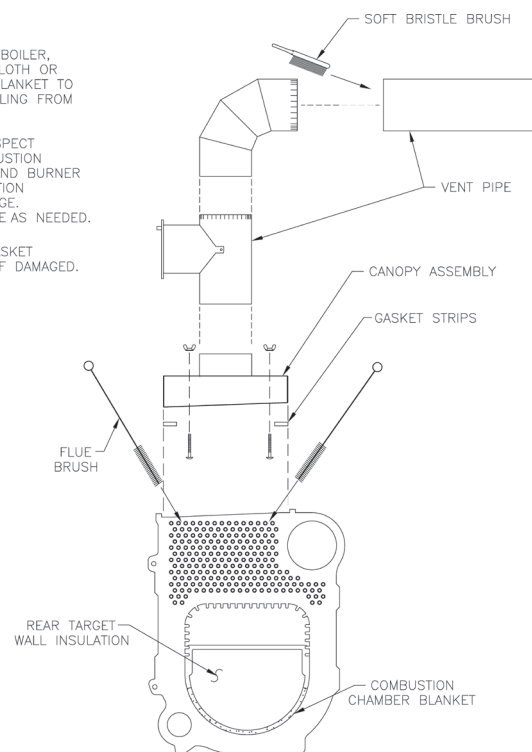

Figure 30: Cleaning of Boiler Flueways
A. CLEAN THE FLUEWAYS (See Figure 30).